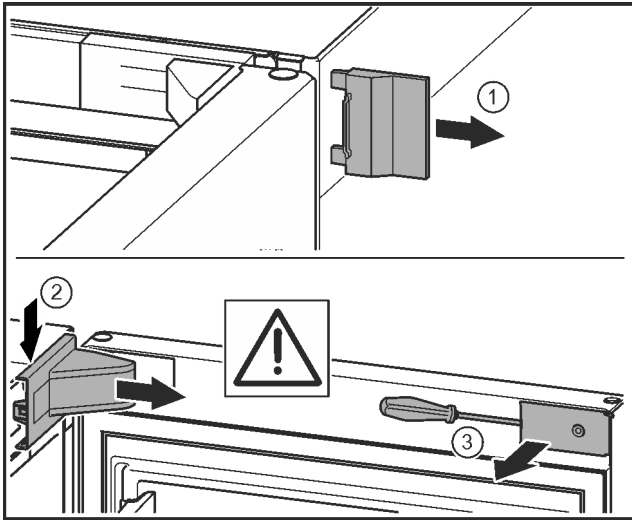

Fig. 21 *
- ▶ Remove the outer cover. Fig. 21 (1) *
- ▶ Disengage and release the bearing bracket cover. Remove the bearing bracket cover. Fig. 21 (2) *
- ▶ Unlatch the panel with a slotted screwdriver and swivel it to one side. Fig. 21 (3) *